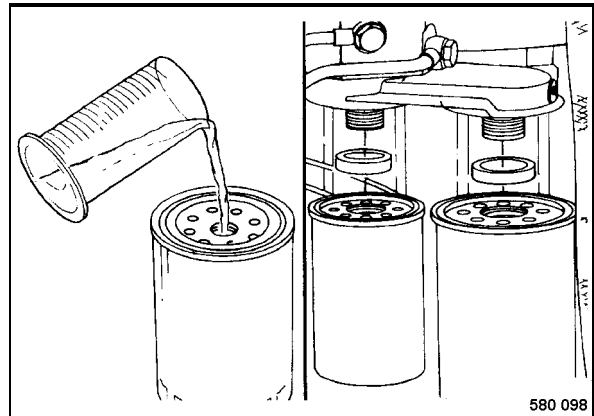

Fig. 96
- Fill the new filter cartridges (Fig. 96) with clean fuel according to the table of fuels and lubricants.